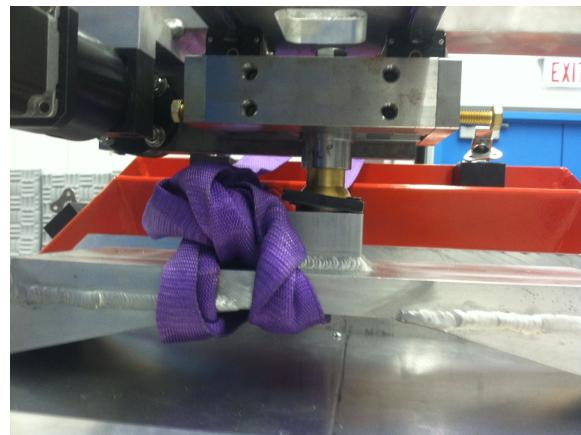

Figure 8
- Allen wrench off the top piece holding in the pin. See Figure 8.